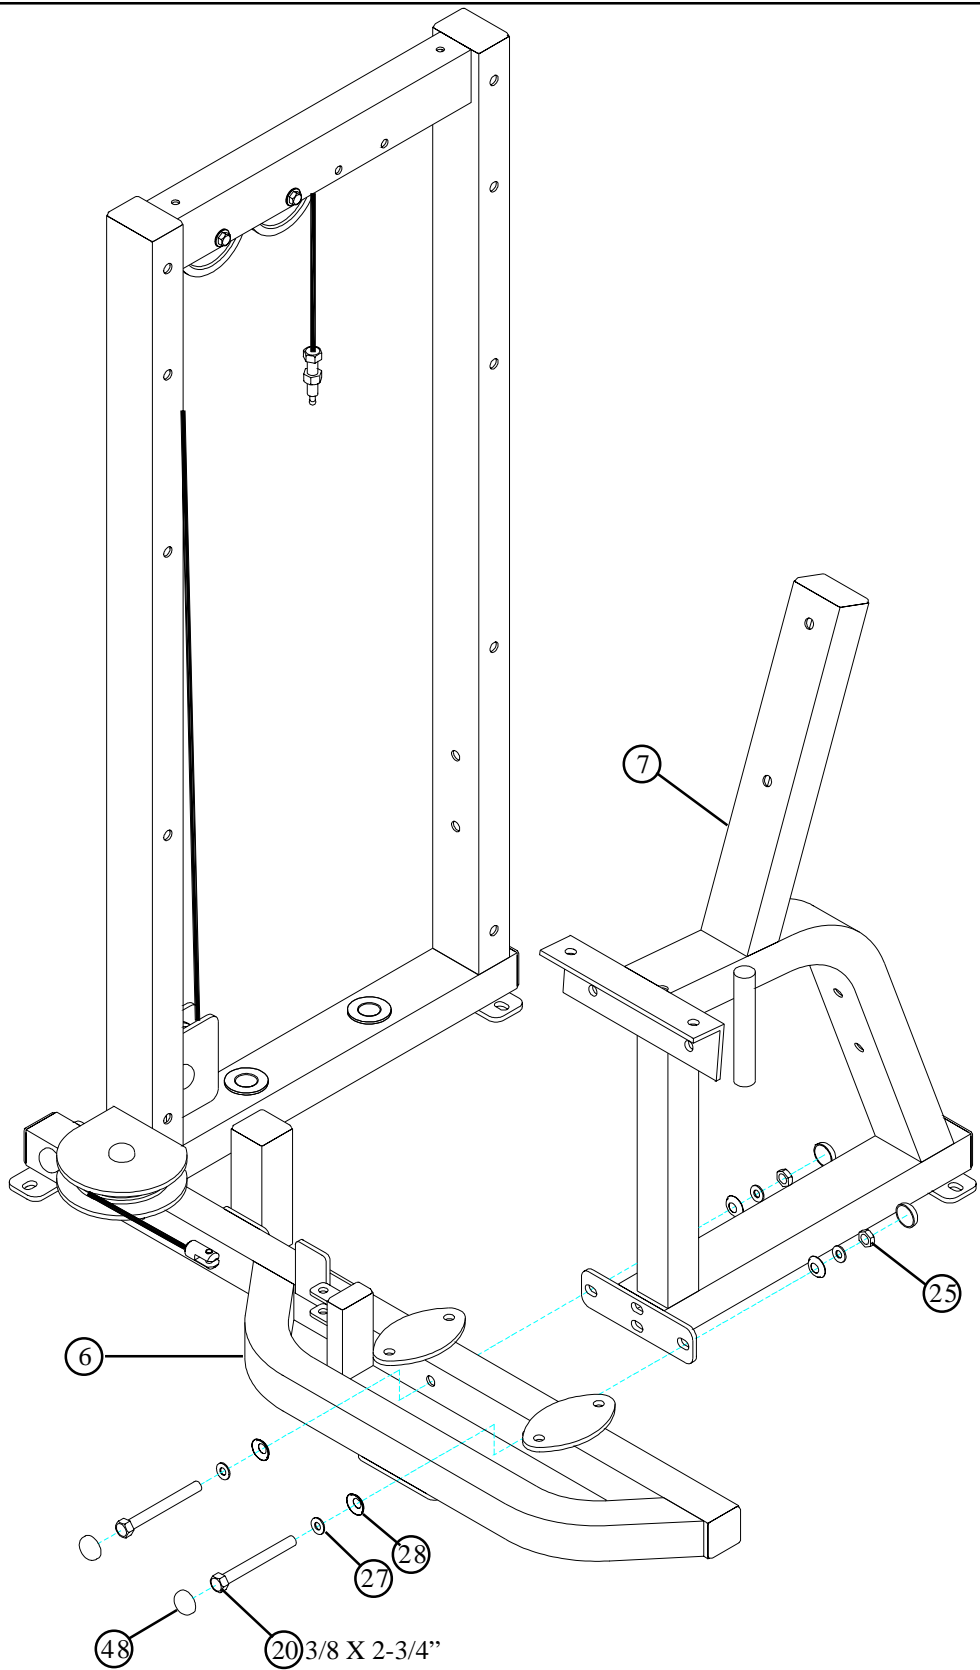

FIGURE 2
- **LOOSELY** assemble the SEAT FRAME (7) to the CROSS SUPPORT (6) using four RH CAPS (48), two 3/8 X 2-3/4" BOLTS (20), four 3/8" SAE WASHERS (27), four 3/8" RH WASHERS (28) and two 3/8" LOW HEIGHT LOCK NUTS (25) as shown in FIGURE 2.